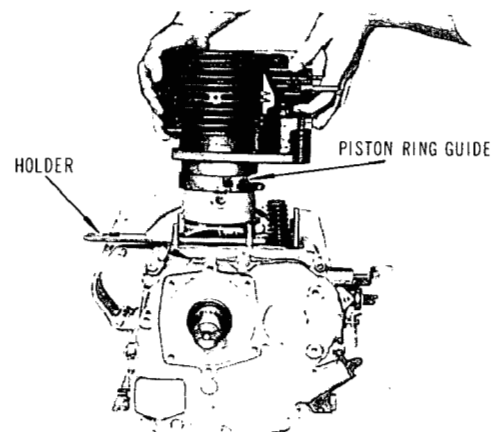

Fig. 6-3-6
- 2) Insert a doubling plate between piston skirt and crankcase, and set piston to the cylinder center so that piston will not move easily. (Fig. 6-3-6).